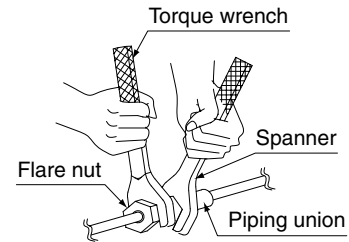

Fig. 4
- (1) Connect the piping.
- When connecting or disconnecting piping to or from the unit, **be sure to use a spanner and a torque wrench.** (Refer to Fig. 4)